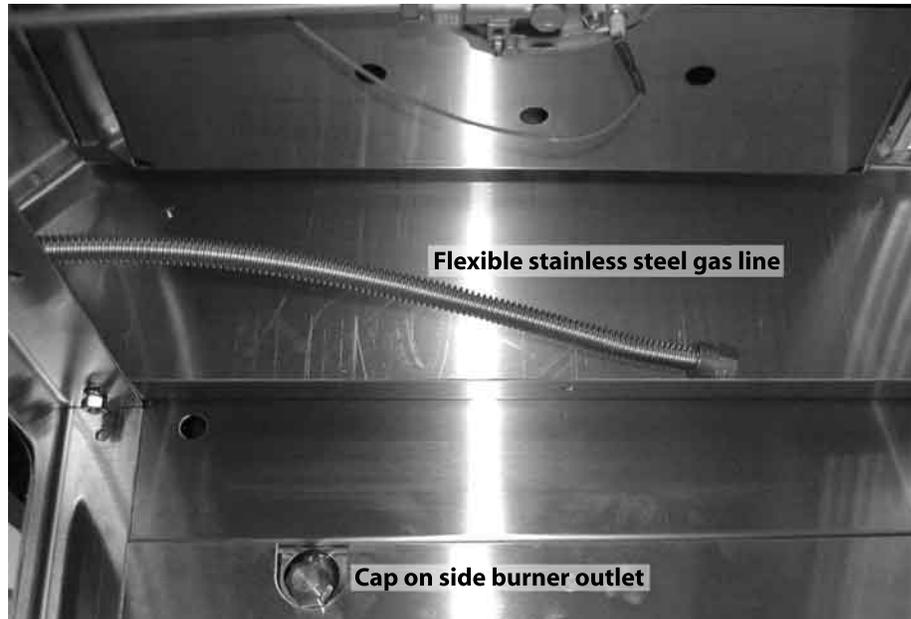

Figure 19
1. Attach the two (2) shelf gussets (formed edges pointing in) onto the front and rear of the right side panel, using four (4) bolts and four (4) lock-washers through the inside of the side shelf into pre-threaded inserts already installed in the side of the cart.
2. Place the side burner on the shelf gussets and install four (4) bolts, four (4) lock-washers, and four (4) nuts through the holes in the bottom lip of the side burner and the corresponding hole at the top of the shelf gussets. **DO NOT TIGHTEN THESE BOLTS ENTIRELY, THIS WILL HELP WITH ALIGNMENT FOR NEXT STEP.**
3. Install two (2) bolts and two (2) lock-washers through the side of the side burner, accessed through the open bottom of the side burner, into the pre-threaded inserts already installed in the side of the engine assembly.
5. Once the side burner has been installed the gas line must be connected. Using a 11/16" wrench remove the cap installed on side burner outlet on the right side of the engine (see Figure 19).